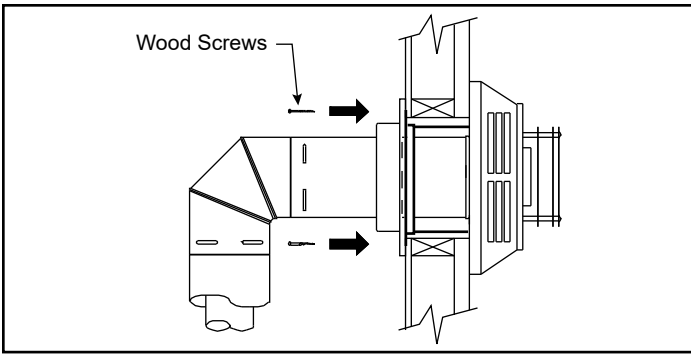

**Figure 3.30**
**Step 5** - Slide the appliance and vent assembly towards the wall, carefully inserting the pipe section into the cap assembly. It is important the pipe section extends into the back of the termination cap with a minimum overlap of 1-1/4" (32 mm). Use the two (2) sheet metal screws provided to secure the pipe section to the back of the termination cap. The wall thimble cover will cover the screw heads, Figure 3.30.